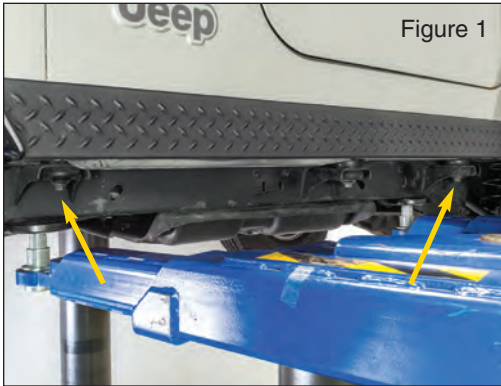

Figure 1: '97-'06 Wrangler (TJ)
*Put on safety glasses. Starting on the Driver's side, Locate the two (front and rear) factory installed body mount bolts (Figures 1 & 2). Using a 5/8" Socket, remove the front and rear body mount*